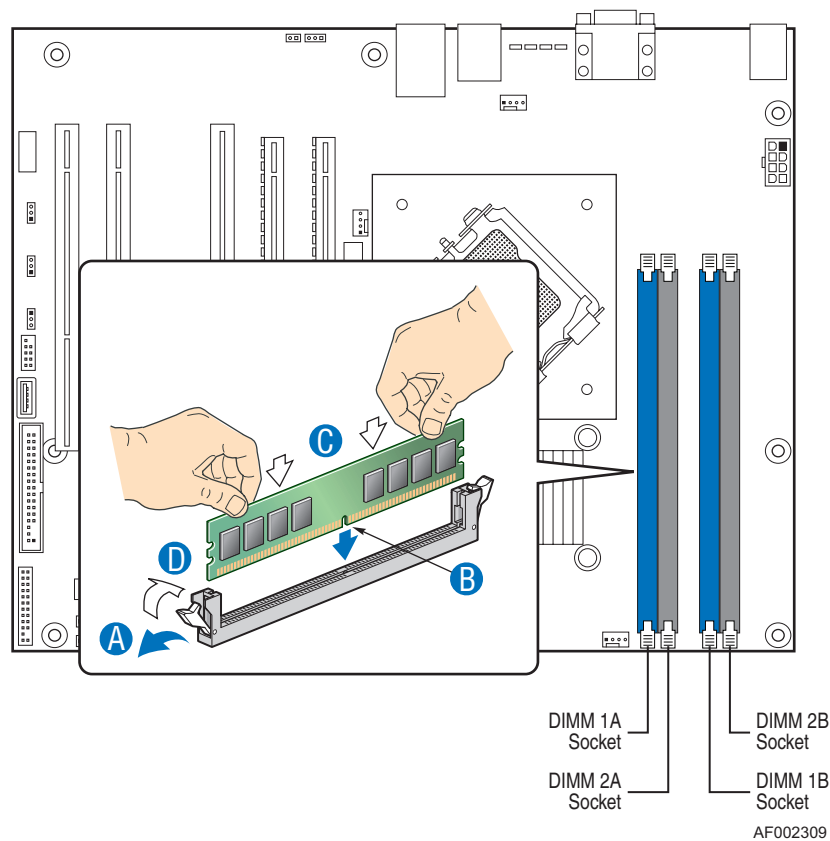

Figure 141: Upgrading the Memory
5. Press the plastic clips at the outer edge of the socket away from the memory module. This ejects the memory module from the socket (see “A” on Figure 141). Do not touch the module's metal "fingers." Store the module in an anti-static bag (available at electronic supply stores) or a cardboard box.
6. Align the new module with an empty memory socket. Make sure the notch on the module aligns with the key in the socket. The module is designed to install into the socket in only one way (see “B” on Figure 141).
7. Press the module firmly into the socket (see “C” on Figure 141). If you have difficulty installing a module, do not force it! Carefully remove the module, then check the alignment of the module's notch with the one in the socket. Then re-install the module.
8. Make sure the locking clips at either end of the module click closed (see “D” on Figure 141). If the brackets do not secure themselves to the module, carefully remove the module, then reinstall it.